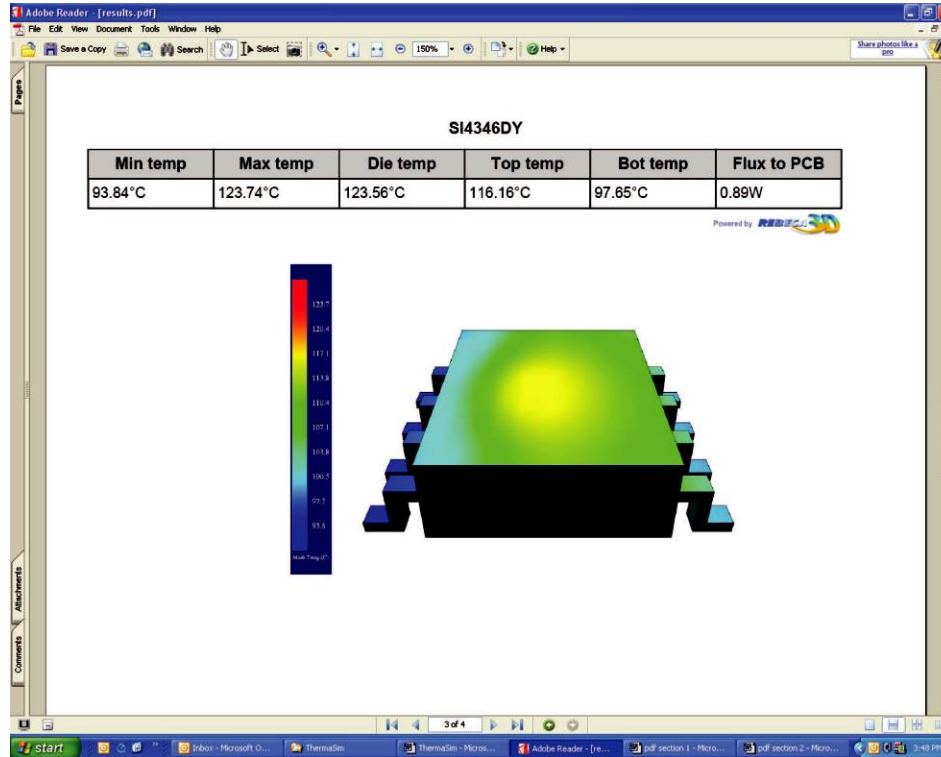

Figure 57.
- **Component Results** (see Figure 57) - This section lists the temperature values for the MOSFET component, such as minimum and maximum die temperatures, top and bottom temperatures of the package, and the flux to the PCB